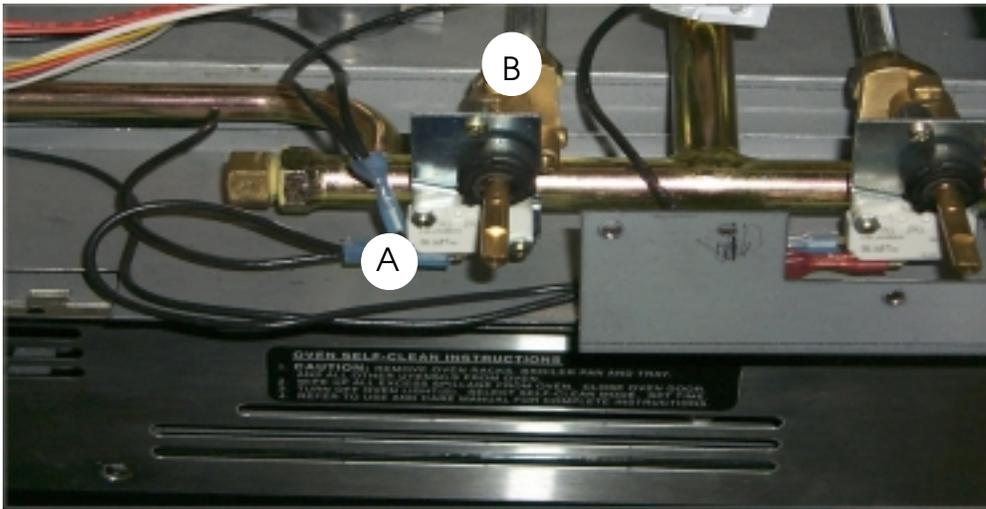

Figure 17-1
Figure 17-1 shows the microswitch (A) and the valves (B) from the front of the range after the control panel cover has been removed